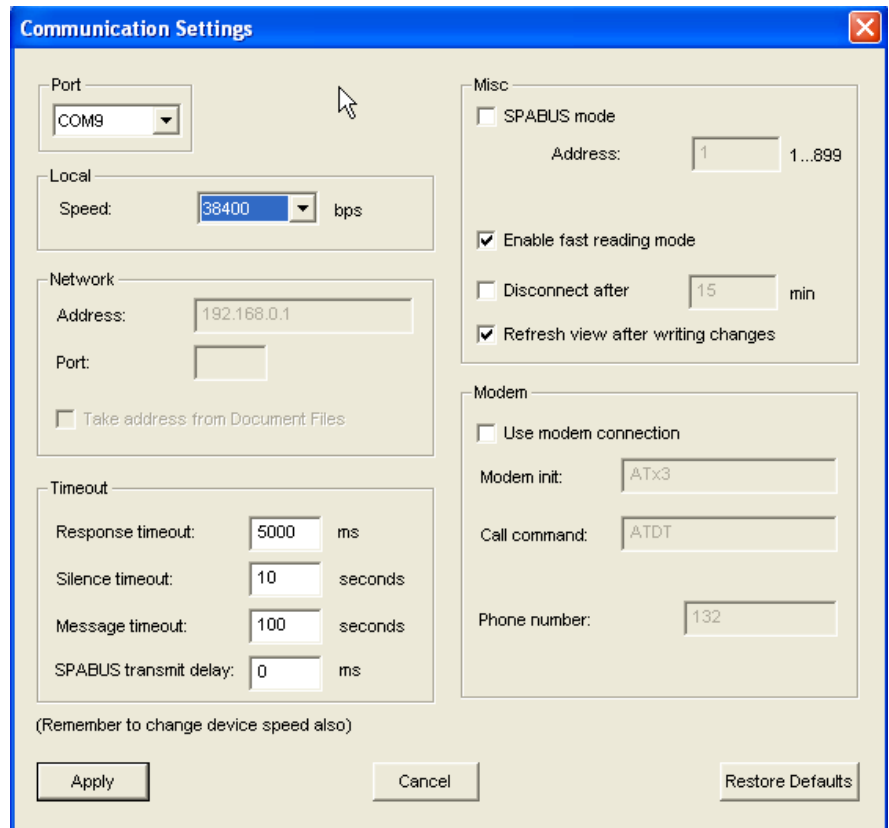

Figure 8.2.1-1 Setting the communication speed in VAMPSET.
- Communication speed can be changed in VAMPSET->Settings->Communication settings as shown in Figure 8.2.1-1